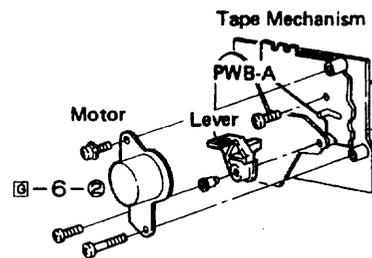

Figure 6-3
- ① Remove the tape mechanism in the same way as in "F REMOVAL OF TAPE MECHANISM."
- ② Remove a screw at the record/playback changeover lever, two screws at the motor bracket and a screw at the tape mechanism P.W.B. - shown in Fig. 6-3, and take the P.W.B. off.